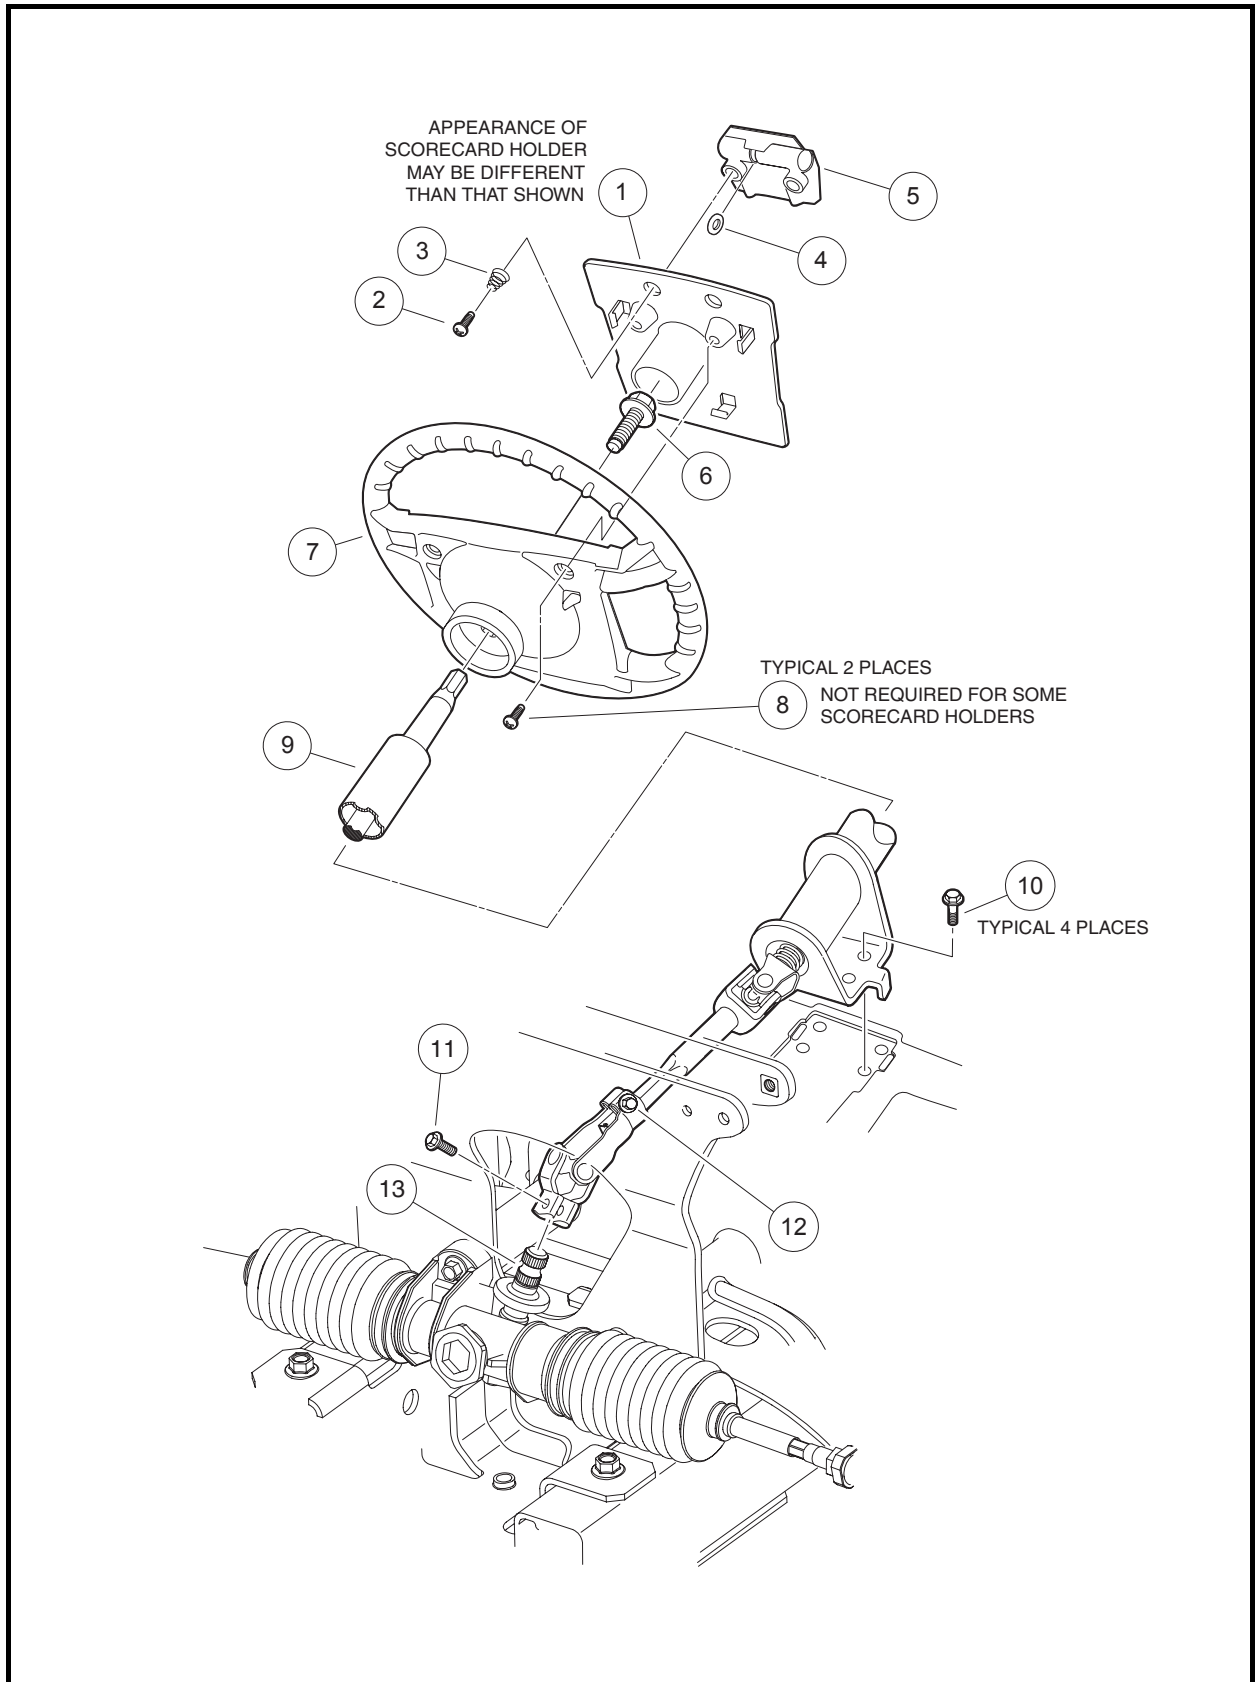

Figure 7-3 Steering Column
2. If scorecard holder is secured to steering wheel with screws, remove the two mounting screws (8) (**Figure 7-3, Page 7-3**).
3. Remove the scorecard holder plate (1).
4. Match mark the steering wheel (7) and steering column shaft (9) so when the steering wheel is removed it can be placed back in exactly the same position on steering column shaft.
5. Loosen the steering wheel bolt (6) and back it off approximately 1/4 inch (6 mm). Do not remove the bolt.
7. Remove the steering wheel bolt (6) and the steering wheel (7) from the steering column (9) (**Figure 7-3, Page 7-3**).
1. Install the steering wheel (7) on the steering column shaft (9). Be sure to align the match marks placed on the wheel and steering column in step 4 above (**Figure 7-3, Page 7-3**).
2. Install the steering wheel bolt (6) and tighten to 13 ft-lb (17.6 N·m).
3. Install the scorecard plate (1).
4. If required, install the plate mounting screws (8). Tighten screws to 16 in-lb (1.8 N·m).
4. Loosen the bolt (11) that attaches the steering column universal joint to the stud on the steering gear (**Figure 7-3, Page 7-3**).
5. Remove the four bolts (10) that attach the steering column to the frame.
2. Insert the end of the steering column with the universal joint through the front underbody. Position universal joint over splined stud on the steering gear. Leave bolt (11) loose until steering column is mounted to frame in step 3 (**Figure 7-3, Page 7-3**).
3. Align the holes in the steering column mounting bracket with holes in the vehicle frame. Secure column to frame with four bolts (10). Tighten bolts to 18.4 ft-lb (25 N·m).
4. Tighten universal joint bolt (11) to 18.4 ft-lb (25 N·m). Verify bolt (12) torque is 18.4 ft-lb (25 N·m).
2. Align the flat portion of the shaft (13) spline with the bolt hole in the upper universal joint and then slide the shaft into the universal joint. Install the bolt and tighten to 18.4 ft-lb (25 N·m) (**Figure 7-3, Page 7-3**).